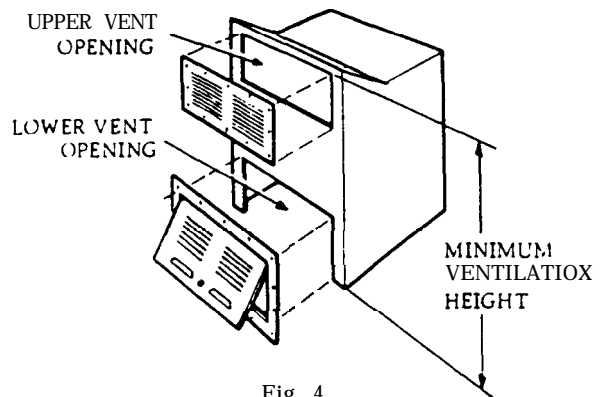

Fig. 4
Approved installations require one roof vent and one lower side vent as optional, one upper side vent and one lower side vent, as shown in the figures 4, 5 and 6.
- (see Fig. 4)